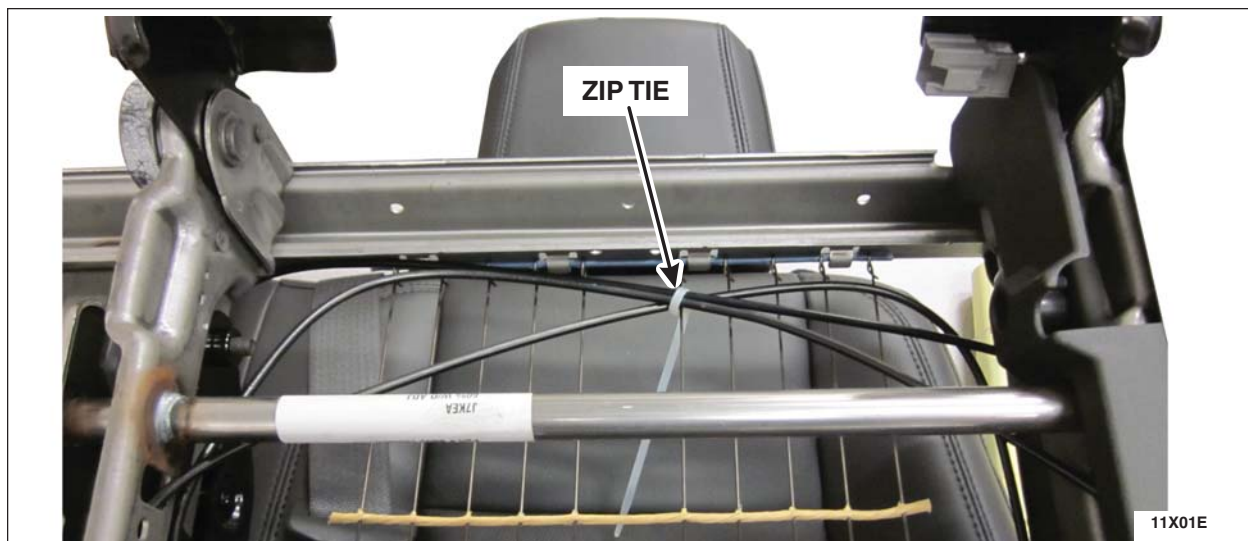

FIGURE 5
10. Using a suitable cutting tool, cut the zip tie that retains the seat recliner cables to the seat cushion frame. See Figure 5.
59. Bundle the recliner cables together and secure to the cushion frame wire, install a new zip tie. See Figure 5.